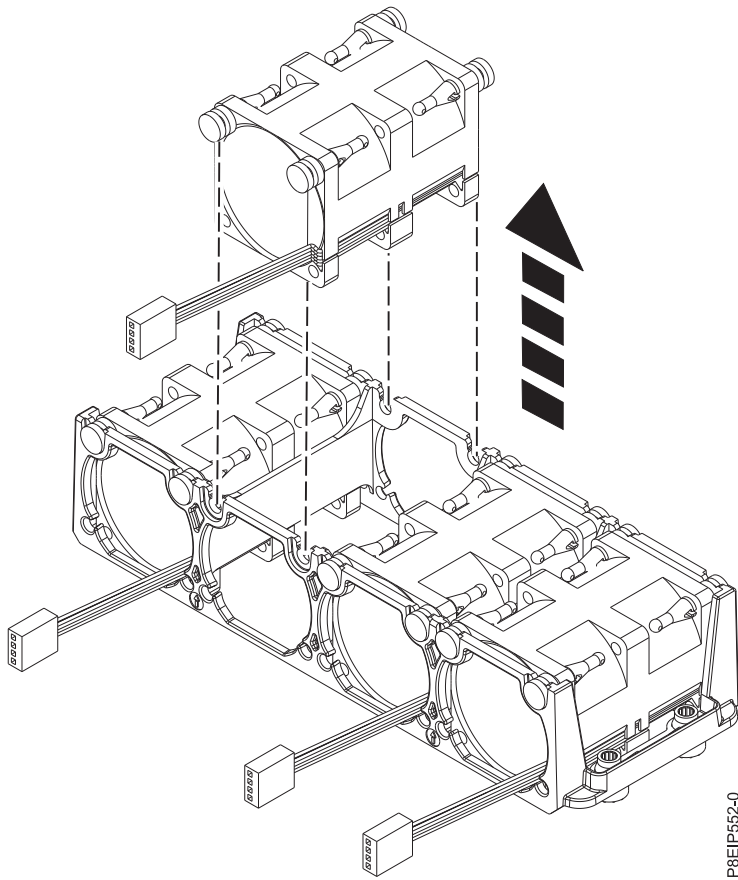

Figure 17. Removing a fan
3. Push the fan up from the holder as shown in Figure 17 on page 20.